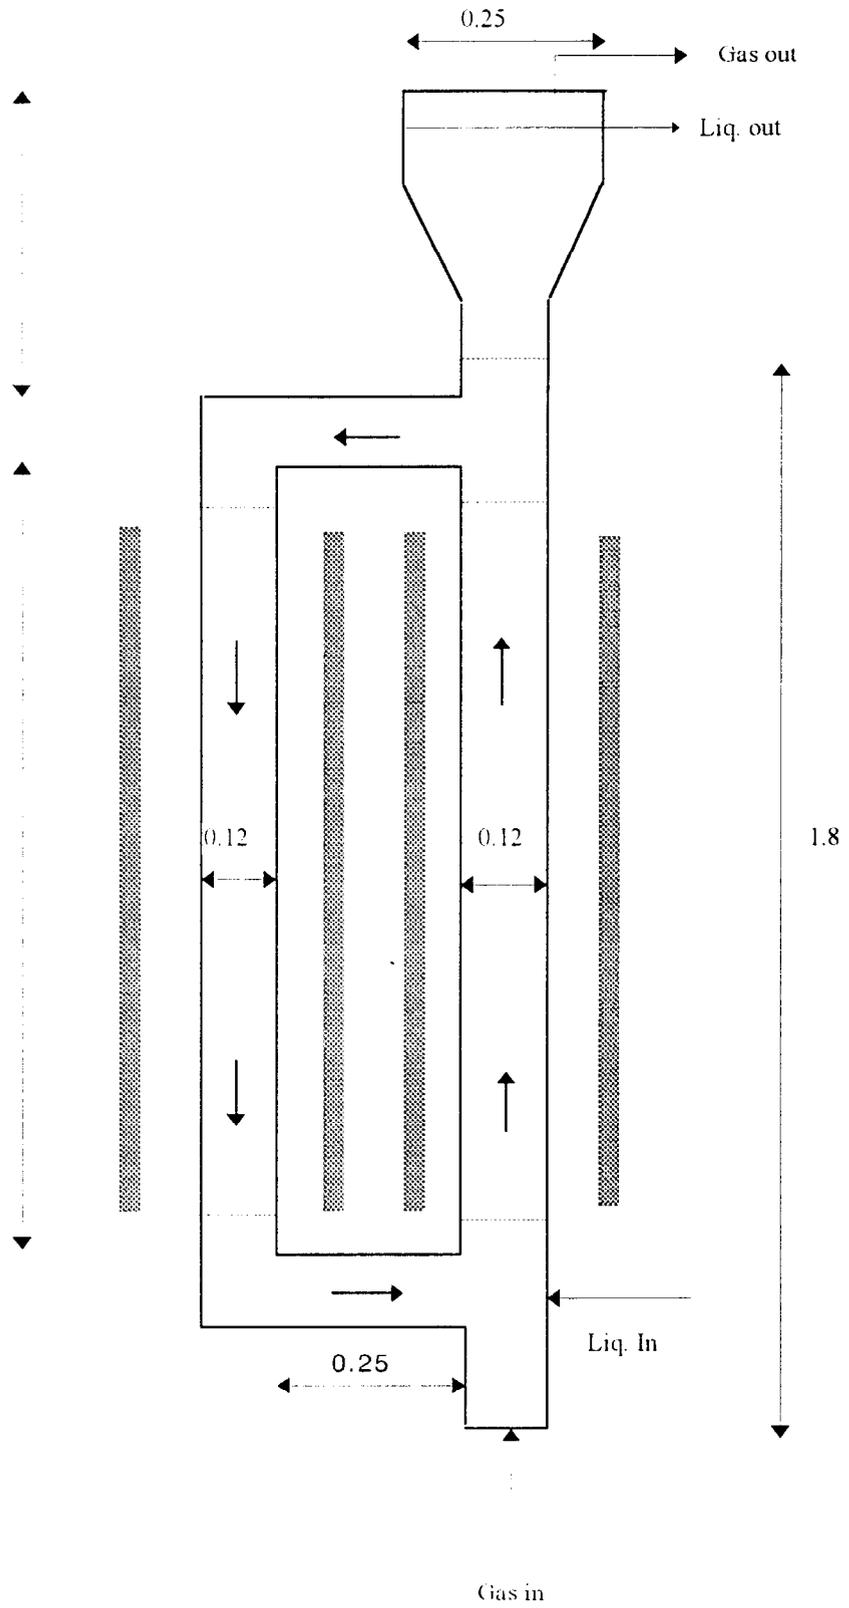

Figure 5. External loop air-lift configuration (reactor 4).
- an air-lift reactor with an external loop, with a diameter of 0.12 m (reactor 4, figure 5)